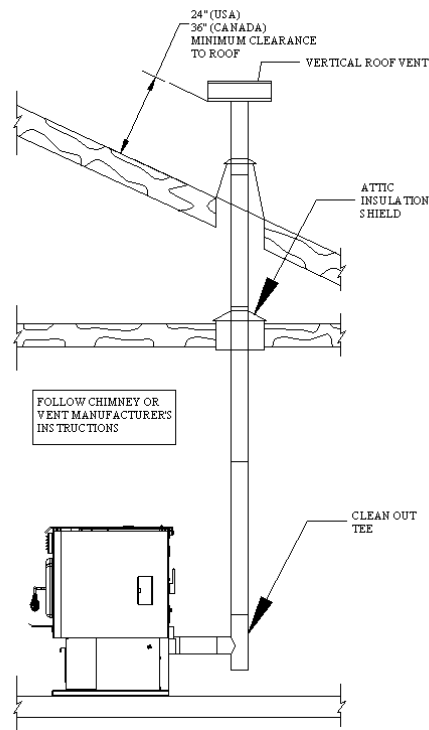

FIGURE 9
B. VERTICALLY WITH NEW CHIMNEY SYSTEM (Refer to Figure 9 – Venting through roof)